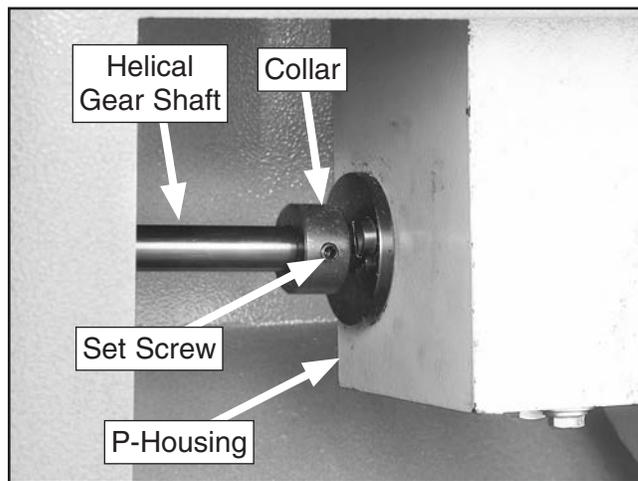

Figure 4. Collar on helical gear shaft.
10. Loosen set screw that secures collar on helical gear shaft behind P-housing (see **Figure 4**).